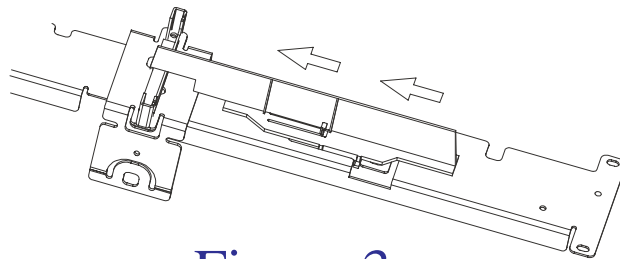

Figure 3
- 5 Install the third clip as shown in figure 3.